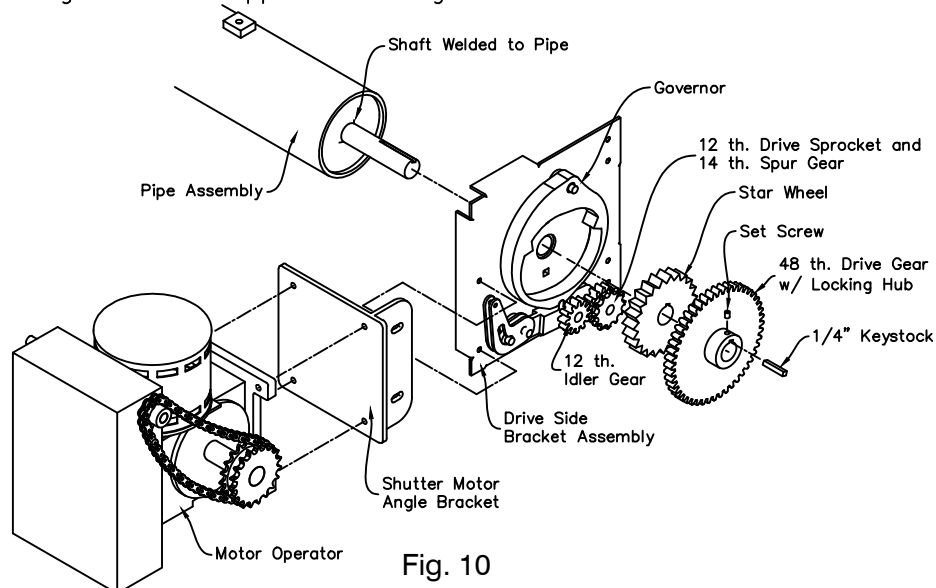

Fig. 10
b) Motor operation – Assemble the drive (governor) bracket on the drive side shaft of the pipe assembly (drive side is the side with the shaft welded to the pipe) as shown in Fig. 10. Align the star gear with the governor and align the drive gear to mesh with the idler gear. Insert the key stock and lock all set screws in place. NOTE: Brackets are shown as right hand drive, left hand drive is opposite. \*Doors under 4'-0" high are not supplied with a governor.